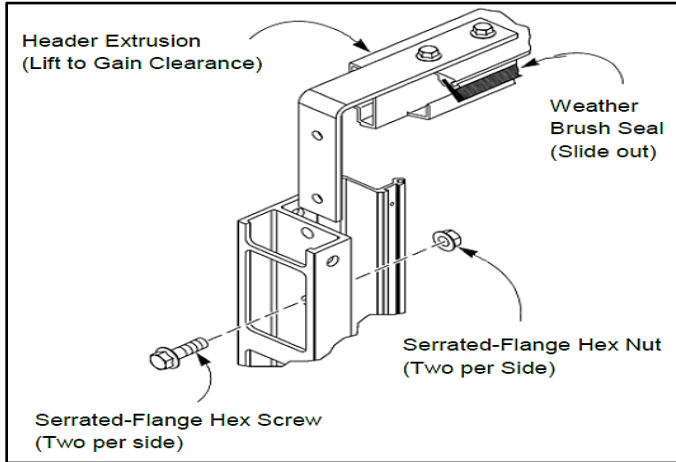

Figure 31
1. From either side, remove two serrated-flange hex screws and nuts securing the header extrusion and support bracket to the side column. (See Figure 31.)